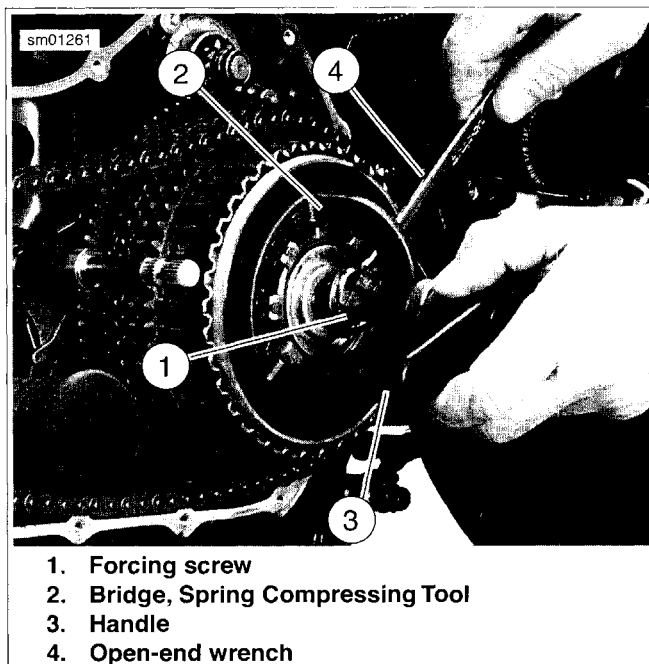

Figure 5-13. Compressing Clutch Diaphragm Spring
2. Thread the CLUTCH SPRING FORCING SCREW (Part No. HD-38515-91) (1, Figure 5-13) onto the clutch adjusting screw (12, Figure 5-11). Place the bridge (2, Figure 5-13) of SPRING COMPRESSING TOOL (Part No. HD-38515-A) against diaphragm spring (17, Figure 5-11). Thread the tool handle (3, Figure 5-13) onto end of forcing screw.
4. Place pressure plate (11) onto clutch pack (28).
5. If disassembled, assemble bearing (13) and adjusting screw (12) in release plate (15); secure with **new** retaining ring (14).
6. Install adjusting screw assembly (12, 13, 14, 15) into pressure plate (11), noting that two tabs on perimeter of release plate (15) must be inserted into corresponding recesses in pressure plate. Secure adjusting screw assembly with **new** retaining ring (16).
7. Position diaphragm spring (17) with its concave side facing inboard (toward pressure plate), onto pressure plate assembly.
8. Position spring seat (18) with its flat, larger outer diameter side facing inboard (toward diaphragm spring).
9. Install a **new** retaining ring (19) onto convex (outboard) side of diaphragm spring.
10. See Figure 5-11 and Figure 5-13. Thread the CLUTCH SPRING FORCING SCREW (Part No. HD-38515-91) (1, Figure 5-13) onto the clutch adjusting screw (12, Figure 5-11). Place the bridge (2, Figure 5-13) of SPRING COMPRESSING TOOL (Part No. HD-38515-A) against diaphragm spring (17, Figure 5-11). Thread the tool handle (3, Figure 5-13) onto end of forcing screw. Do not tighten compressing tool against diaphragm spring at this time.
12. See Figure 5-13. Place an open-end wrench (4) on the clutch spring forcing screw (1) flats to prevent the forcing screw from turning.